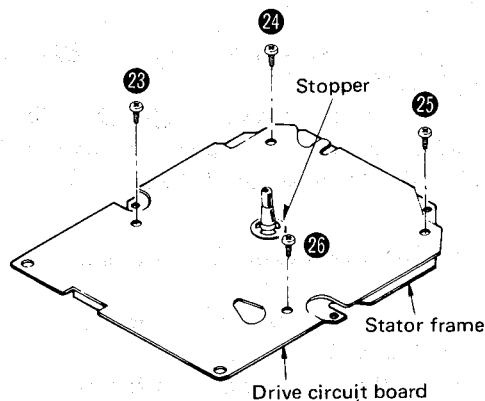

Fig. 9
3. Cut off the stopper by nippers and remove the 4 setscrews (Fig. 9 : ㉒ ~ ㉒) to separate the stator frame and drive circuit board.